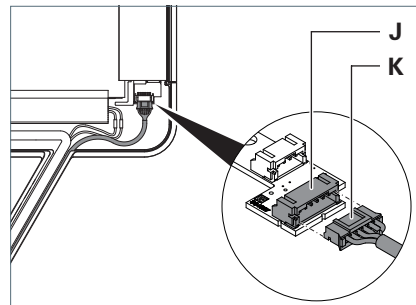

Fig. 6: Connecting the luminaire head, part 2.
- ▶ Connect the socket strip **K** to the pin strip **J** in the luminaire head, see Fig. 6.